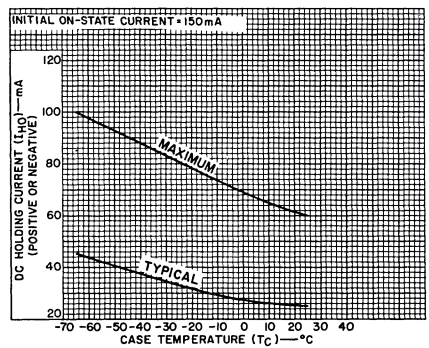

Fig. 6 - DC holding current vs. case temperature.
| DC Holding Current: Gate open, Initial principal current = 150 mA (DC), $v_D = 12\text{V}$; $T_C = 25^\circ\text{C}$ For other case temperatures | I_{HO} | — | 25 See Fig. 6 | 60 | mA |